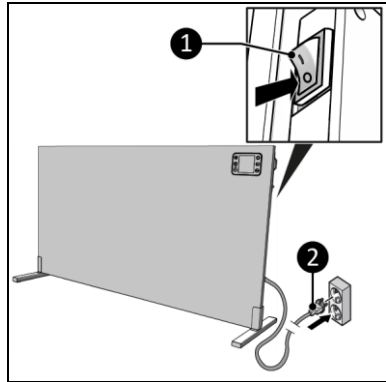

Figure 15
2. Make sure the main switch is in the OFF position (Figure 15, pos. 1).
3. Insert the power plug (Figure 15, pos. 2) into an earthed wall socket that is easily accessible. Use an earthed wall socket with a minimum power of 1000 Watt.